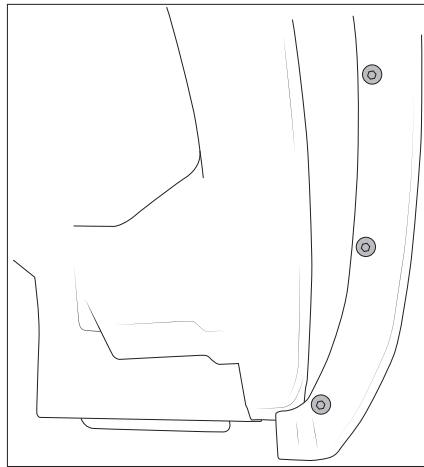
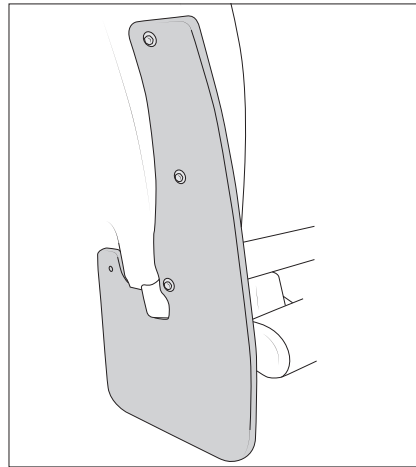

Figure 1
Figure 2
2. Remove the three (3) bolts attaching the flare to fender panel and discard (Fig. 1).
3. Position the Splash Guard to fender flare aligning all three (3) hole locations.
4. Loosely install a #10 x 1.5" bolt with #10 washer to each location (Fig. 2). It is recommended to begin at top location and loosely install all fasteners and obtain best guard to body fit before tightening all fasteners — **HAND TIGHTEN ONLY. DO NOT USE POWER TOOLS.**